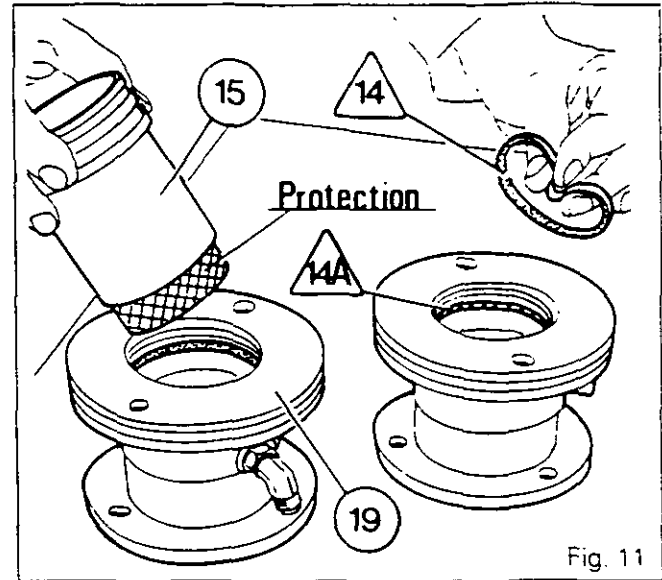

Fig. 11
8. Clean the cylinder (19).
10. Lubricate and fit the "O" ring /14A\ in the deepest groove. Do not twist it. (Fig. 11)
11. Compress the seal /14\ into a heart-shape (Fig. 11)
13. Lubricate the seal /14\ and the bore of the cylinder (19).
Protect the threaded part of the piston (15) (Fig.11).